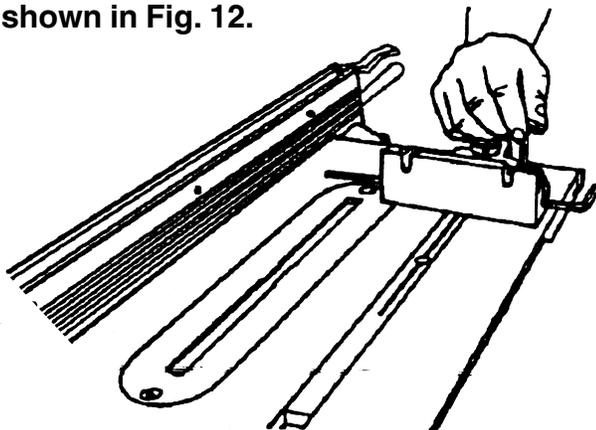

Fig. 12
9. Place the miter gauge in the left slot of the worktable on the infeed side, as shown in Fig. 12.
10. Insert the long 5/32" Allen wrench through the miter gauge and secure it using a short 5/32" Allen wrench and a setscrew borrowed from the lathe tool rest, as seen in Fig. 12.